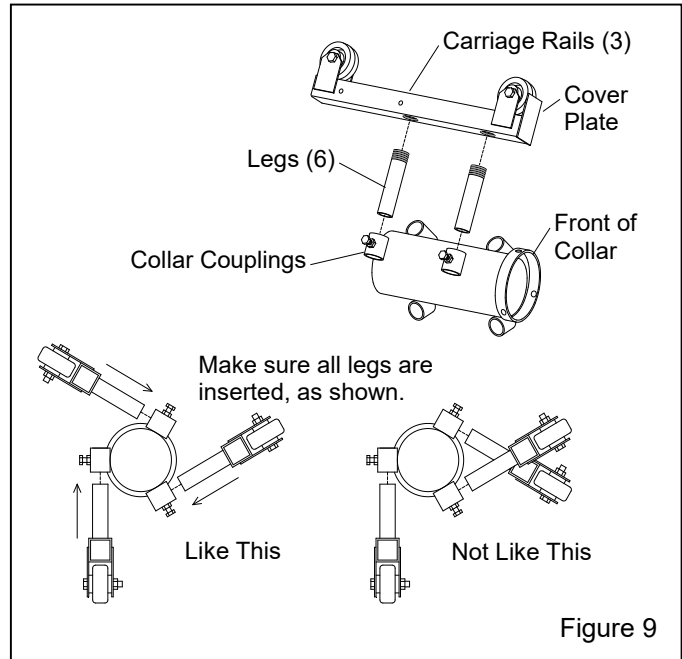

Figure 9
**5.2.1 16" to 31" carriage – Figure 9**
**5.2.1.2** Thread the six legs into the three carriage rails, as shown in Figure 9.
**5.2.2.2** Refer to the table in Figure 13 to determine how far the leg should be inserted into the collar coupling to center the tool in the pipe. Make sure the legs are inserted into the same end of the coupling, all going either clockwise or counterclockwise, as shown in Figures 9 and 10. Tighten coupling bolts to secure the legs.
**5.4.2** Refer to the LEG column in the table to find the length of the carriage leg to use, then thread the appropriate length legs (two into each rail) into the rail assemblies, as shown in Figures 9 and 10.